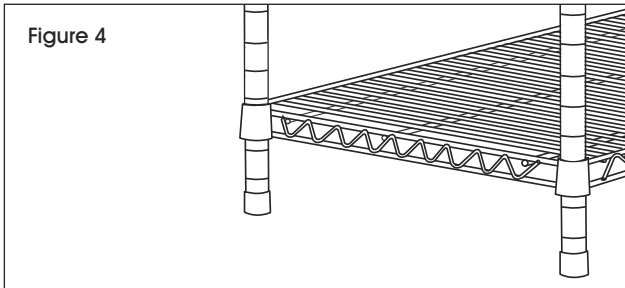

Figure 4
- Stand unit upright. Gently tap shelf down with rubber mallet to secure it. (See Figure 4)